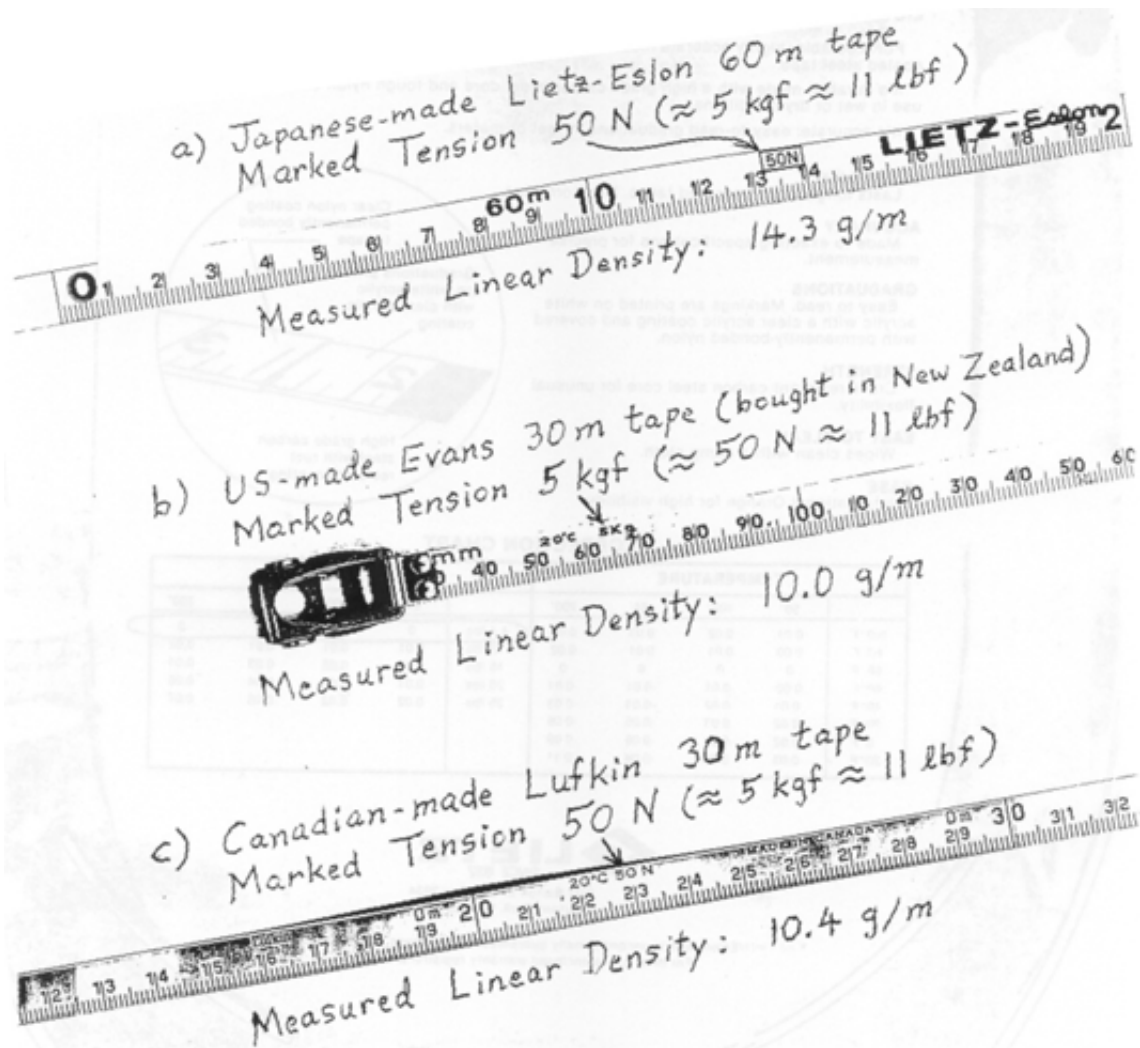

Figure 1. Pictures of several steel tapes (near zero end). In each of these cases, specified tension for pulling the tape is marked on the blade.
- 2) There’s no doubt that a lighter weight tape stretches more for any given applied force than a heavier tape. But this doesn’t mean that light tapes should be used with less tension than heavy tapes. It means only that when using lighter tapes, it’s more important to apply the **correct** tension. Often, the correct tension is marked directly on the tape blade (see Figure 1).
Possibly, this US government standard has changed since 1976. Internationally, the round metric figure of 50 N ( $\approx 5 \text{ kgf} \approx 11 \text{ lbf}$ ) seems to be taking over as the standard tension for steel taping. Figure 1 shows tapes made in three different countries. The tapes in (1a) and (1c) have tension marked in the correct SI unit, newton (N), while the tape in (1b) displays tension in the older non-SI unit, kilogram-force (denoted incorrectly as "Kg" on this tape). But all three tapes indicate essentially the same tension value of 50 N.
According to surveying textbooks, surveyor's tapes are classified as ranging from "lightweight" with linear density about 15 g/m (1 lb for 100 ft tape) to "heavyweight" with linear density 45 g/m (3 lb for 100 ft tape). Note that in Figure 1, I've included the measured linear density for each of the pictured tapes. The Japanese-made tape in Figure (1a) weighs 14.3 g/m and thus qualifies as a "lightweight surveyor's tape" (about 15 g/m). The hardware-store tapes in Figures (1b) and (1c) weigh only about 10 g/m, which is 2/3 the weight of a "lightweight" surveyor's tape.
Mr. Stratton's stated tape dimensions—0.00315" (0.08 mm) thick by 0.375" (9.5 mm) wide—imply a linear density of 6.0 g/m. Using this figure, I can verify his stretching calculations with Equation (1) above. However, 6 g/m is a lot lighter than *any* tapes shown in Figure 1. A check of the Lufkin catalog reveals that the lightest steel tapes sold by that company (specifically, their "Home shop" and "Universal lightweight" models) match the 10 g/m density of the tapes in Figures (1b) and (1c). Maybe Stanley sells lighter steel tapes than any sold by Lufkin. I don't know.
This raises an important question: Unless we are willing to spend the extra effort to calibrate all our tapes (as Mr. Stratton evidently does), when can we feel confident that our tapes meet the Government standard? I'm pretty sure that all of Lufkin's tapes meet the standard, as that company is strongly committed to accuracy. More generally, I expect that any tape with a tension figure marked on its blade (like all the tapes in Figure 1) can probably be trusted to be reasonably accurate at the indicated tension. I would hazard a guess that the Stanley tape used by Mr. Stratton does *not* include such a tension marking on its blade.